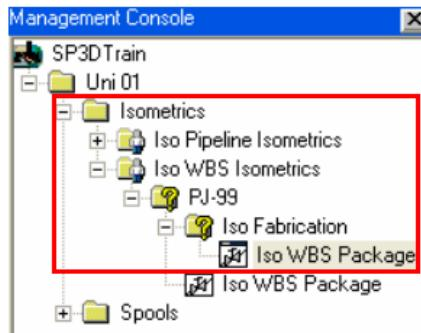

Figure 64: Iso WBS Package in Management Console
11. In the **Management Console**, expand the drawing hierarchy to **Unit 01>Isometrics>Iso WBS Isometrics > PJ-99> Iso Fabrication > Iso WBS Package**, as shown in Figure 64.